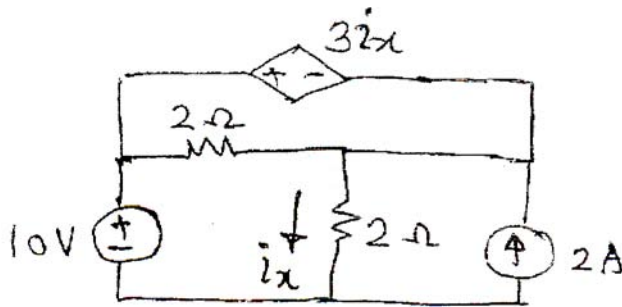

Fig 2c
- c) Determine the current i_x in the circuit shown in fig 2C using mesh analysis and confirm the value of current using nodal analysis. 10